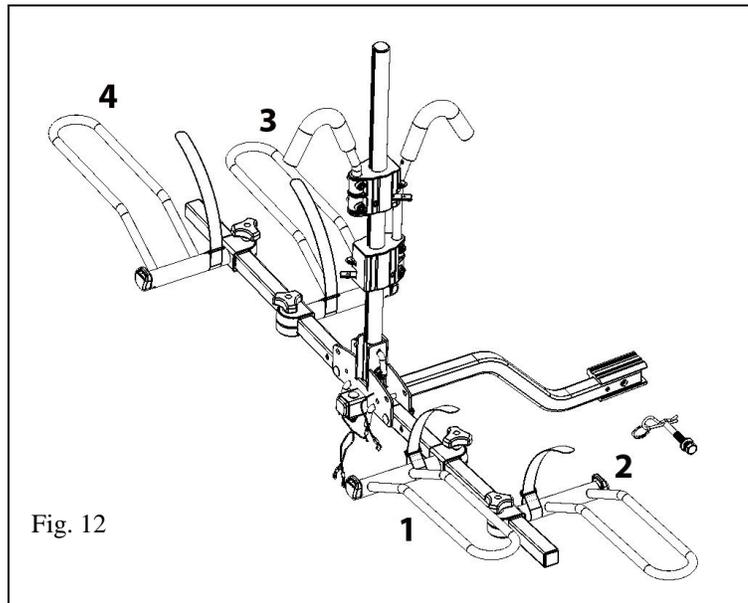

Fig. 12
Loosen the knobs on the wheel holders and slide them onto the wheel tubes per Fig. 12. **They are snug - you may need to tap them on.** Configure the wheel holders per Fig. 12. Install the wheel holder for inside bike passenger side first (1), next the outside bike passenger side (2), then the inside bike's driver side (3), and finally the outside driver side wheel holder (4).